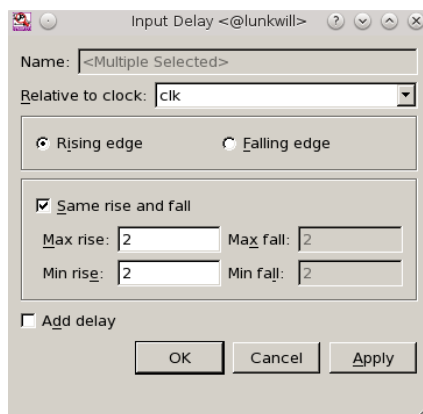

Figure 2.7: Input Delay window.
11. Specify a delay of e.g. 2 ns for both **Max rise** and **Min rise**, as shown in Figure 2.7. Press **OK**.